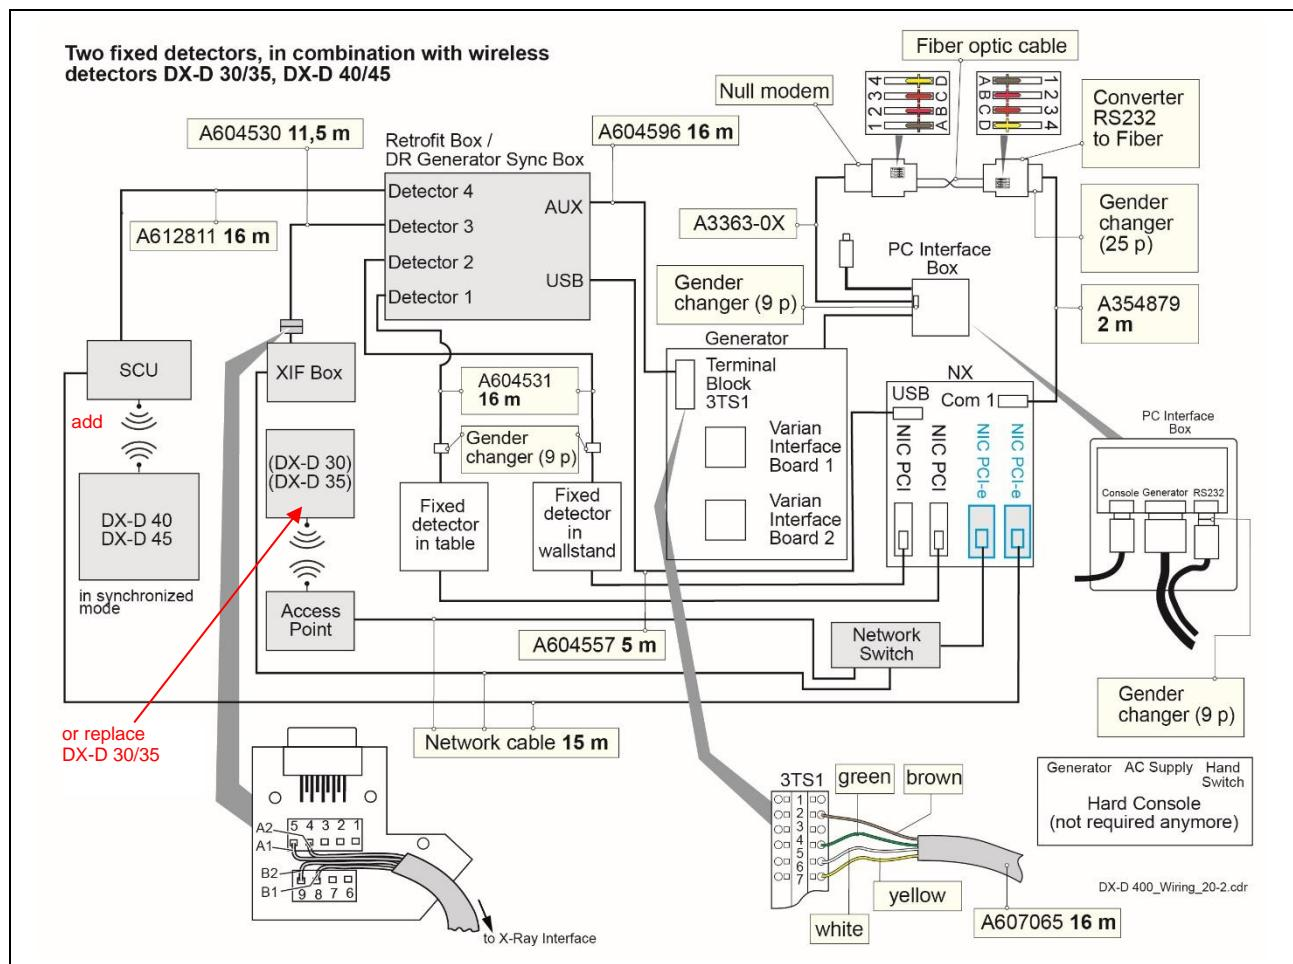

Figure 11: Digital system – DX-D 40/45 detector with HW sync added to installed DX-D 30/35 detectors
- For the wiring diagram digital systems (2 fixed detectors) refer to Figure 11.For installation details see *DX-D 40 / DX-D 45 / DX-D 60 - Service Manual*, Document ID 45016244 and *DR Detector - basic configuration guide*, Document ID 68310512.
- (2) Configure the NX.